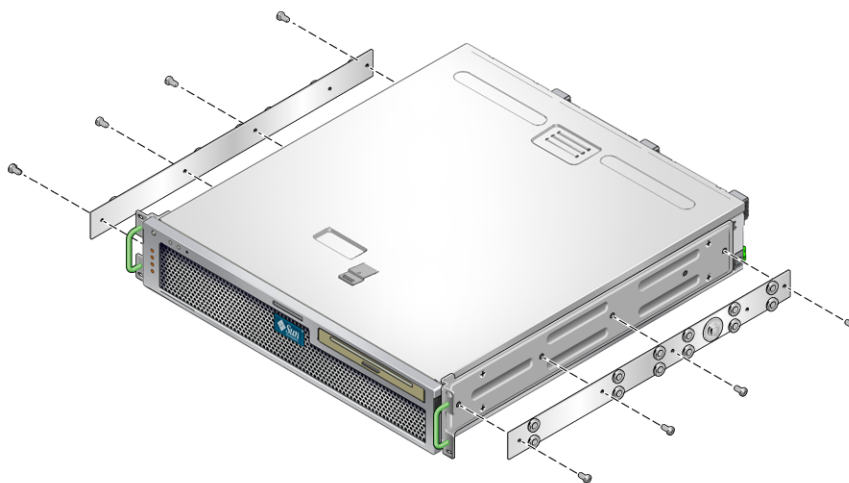

FIGURE 3-9 Fixing the Glides to the Server Chassis
5. Using eight of the $M4 \times 0.5 \times 5$ mm panhead Phillips screws from the rackmount kit (four for each side), screw each glide to the side of the server chassis (FIGURE 3-9).